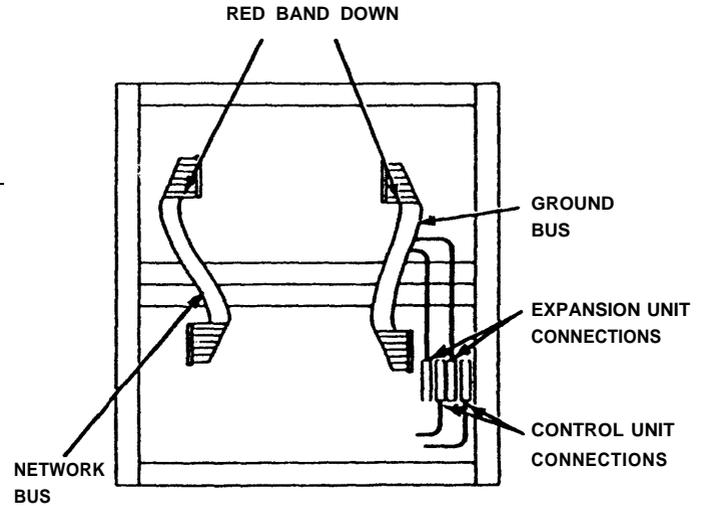

Figure 4
11. On the backplane of the Model 1030 control unit and the set of pins labeled "Network Bus". (See Figure 4.)
15. Connect the two cable connectors on the control unit with the two cable connectors on the expansion unit (see Figure 4).